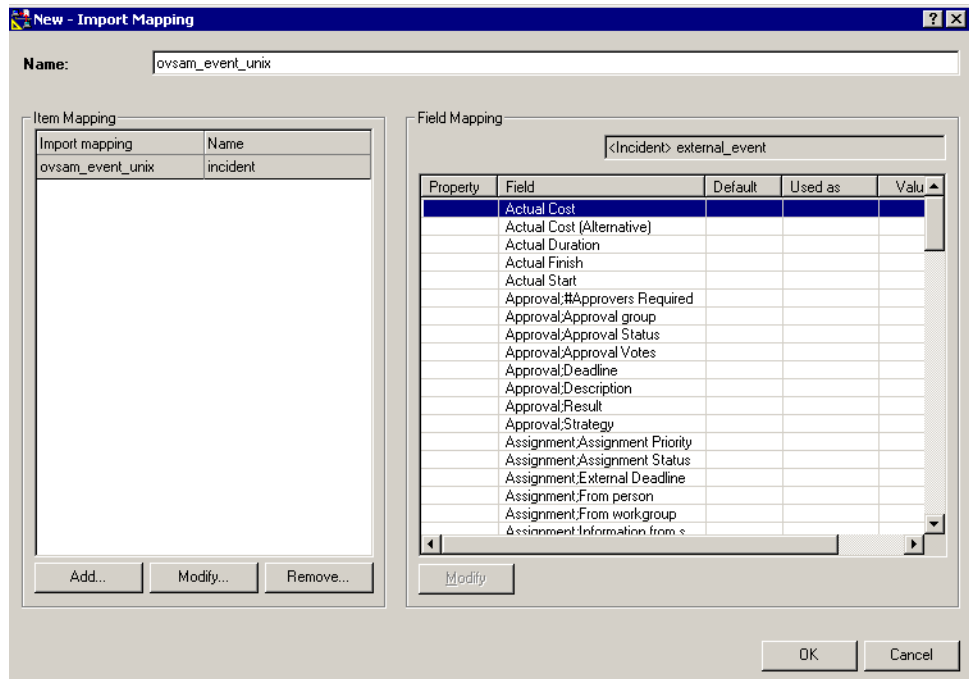

Figure 25: New Import Mapping Window for Forwarding the Event from OVO Unix to Service Desk
- Click **OK** in the Field Mapping - Priority window to store the field mapping created for the Priority field and click **OK** in the New Import Mapping window shown in Figure 25 to store the newly created import mapping.